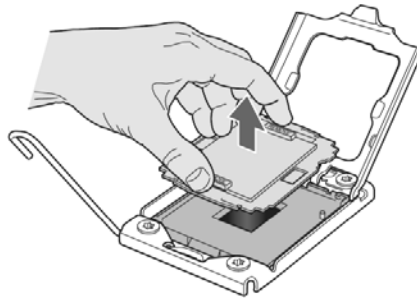

Figure 15. Removing the Processor Socket Protective Cover
7. Remove the processor socket protective cover: Grasp the socket protective cover by the two tabs and carefully lift it straight up as shown in Figure 15.